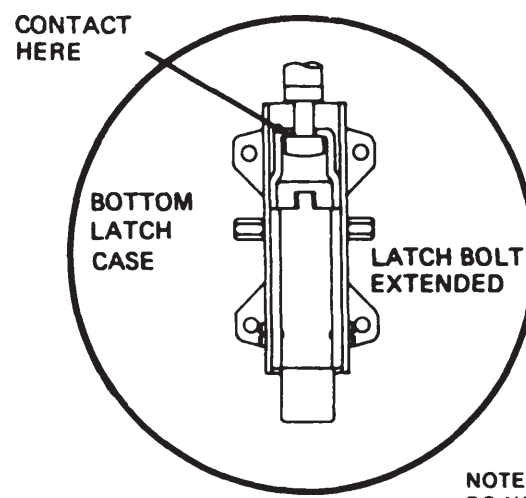

FIG. 5
- Adjust rod so rod connector fits as shown. (Fig. 5)